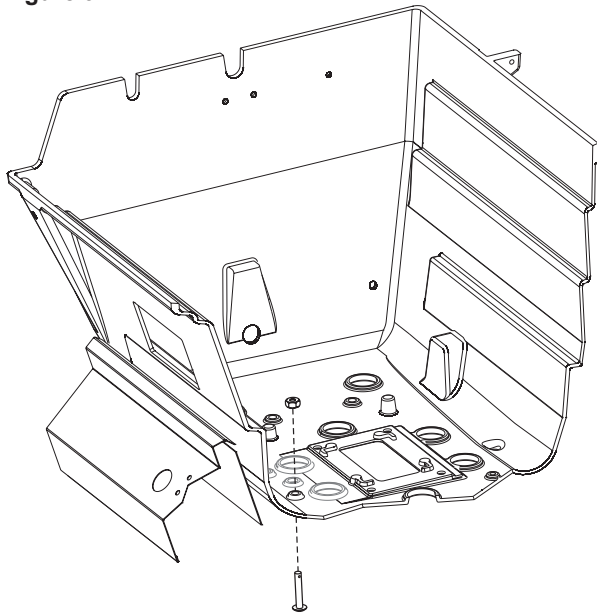

Figure 9
1. Insert the 1/4-20 x 1 1/2 Phillips Truss Head Screw from the underside of the grill and secure with the 1/4-20 Hex Nut. **See Figure 9.**